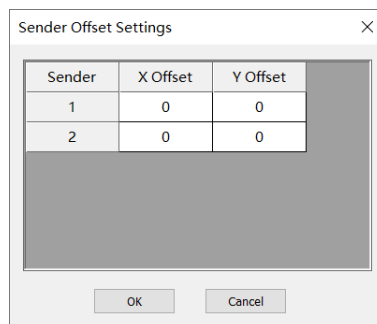

Fig 8.4.5.1 Sender offset setting
Step 1: Double-click on **Brightness/Chroma** under **Pixel-by-Pixel Calibration** in the main interface to set parameters under **Sender Offset Setting**. Then, click **OK** to access the **Brightness/Chroma Calibration** interface, as shown in Figure 8.4.5.1. (Note: Normally, no offset adjustment is required. Only if the physically connected LED display has an offset do you need to adjust the offset value to match your particular setup.)